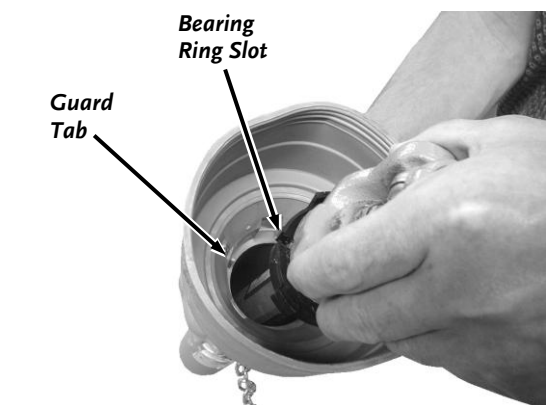

Figure 15
7. Insert the Shaft Halves into the Guards making sure that the Bearing Ring Slot lines up with the Tab on the inside of the Guards for proper installation (**Figure 15**).